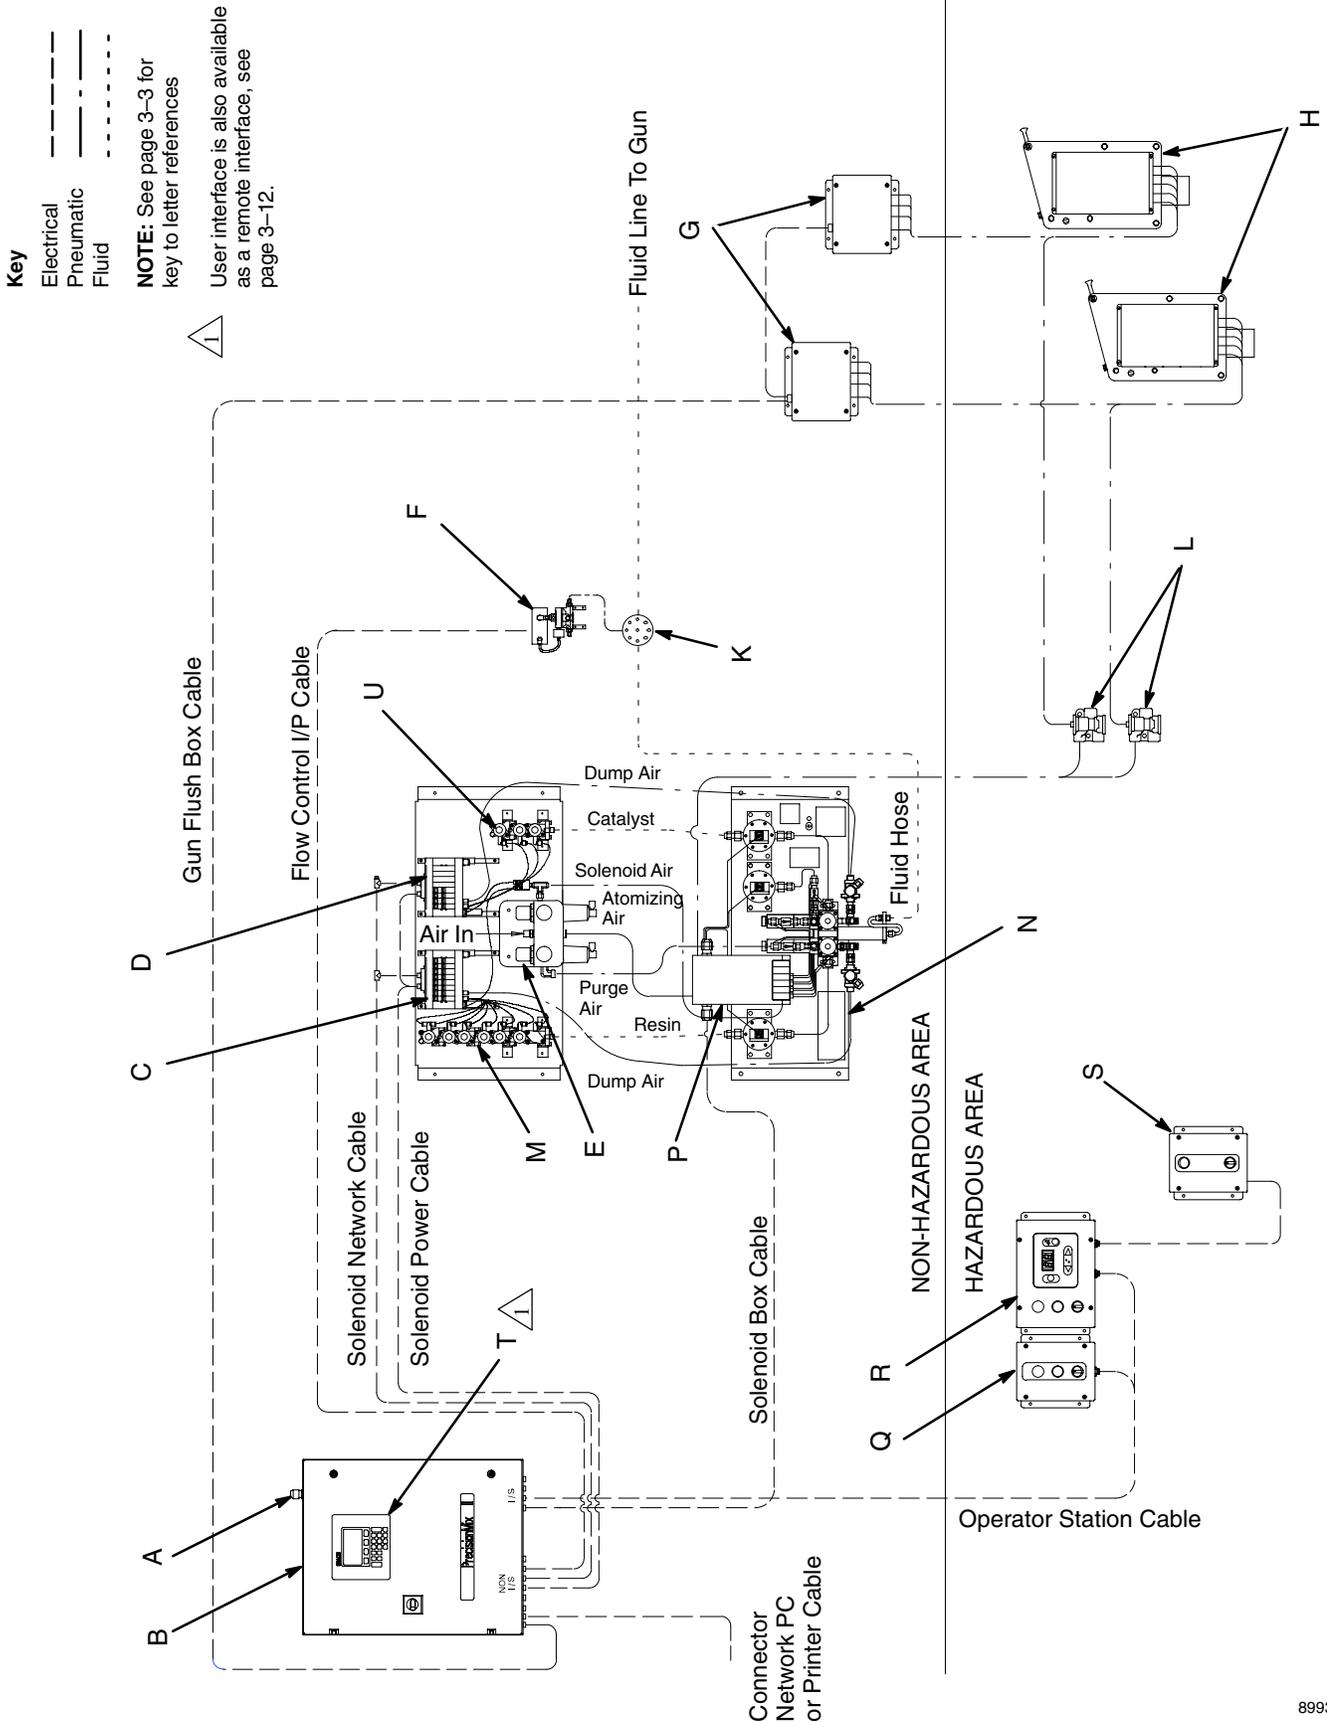

Fig. 3.1
- The Typical Installations shown in Figs. 3.1, 3.2, and 3.3 are only a guideline for selecting and installing system components and accessories, and is not an actual system design. Contact your Graco distributor for assistance.
KEY FOR FIG. 3.1, 3.2, AND 3.3
NOTE: The typical installation drawings (Fig. 3.1, 3.2, and 3.3) show all possible system options. Your system may not include all these options.
- Refer to Fig. 3.1, 3.2, or 3.3 for non-hazardous versus hazardous location equipment requirements.